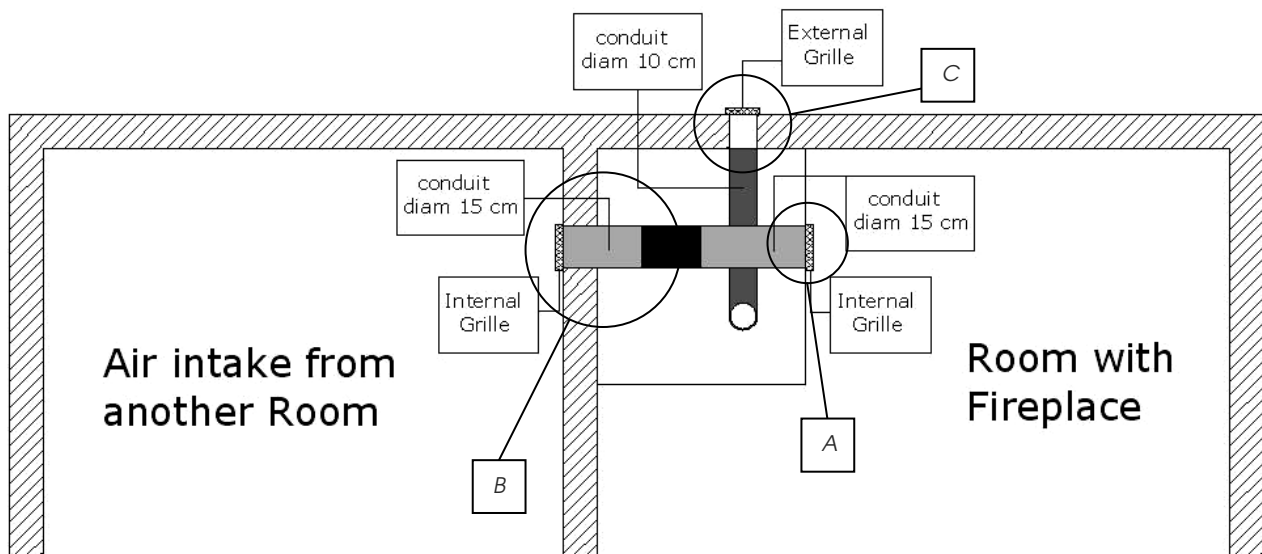

Fig. 11: Fireplace with Fan
- **B** Open a $\varnothing 15\text{cm}$ hole (as it is placed in A) or open it in the internal wall of the next room, except the kitchen, bedroom, bathroom (Fig. 11), for circuit of fan and cover it with a grille, too.
- **C** Open a $\varnothing 10\text{cm}$ hole in the external wall (Fig. 11) to lead the air into the combustion chamber and cover it with an external grille.